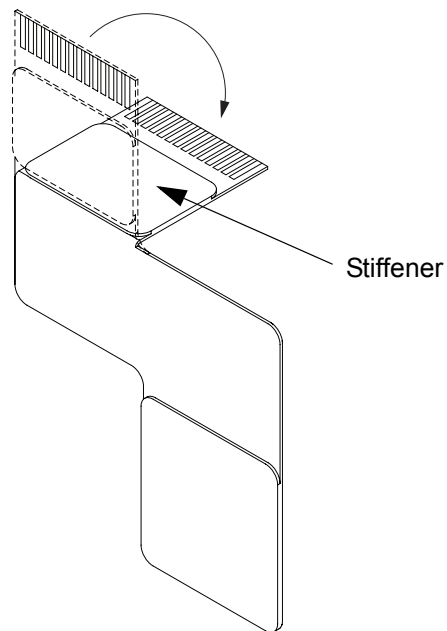

Figure 5-62 Folding Option Flex
1. Fold the option flex along edge of the stiffener as shown in Figure 5-62.